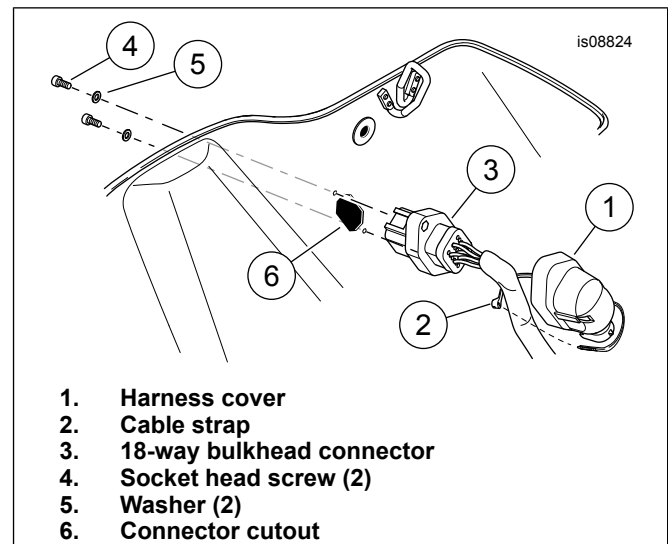

Figure 4. 18-Way Connector and Cover Installation to Left Saddlebag
8. See Figure 4. Insert the pin side 18-way bulkhead connector (3) from the saddlebag harness through the connector cutout (6) from the inside. Secure the connector from **outside** the saddlebag with two socket head screws (4) and washers (5). Tighten.